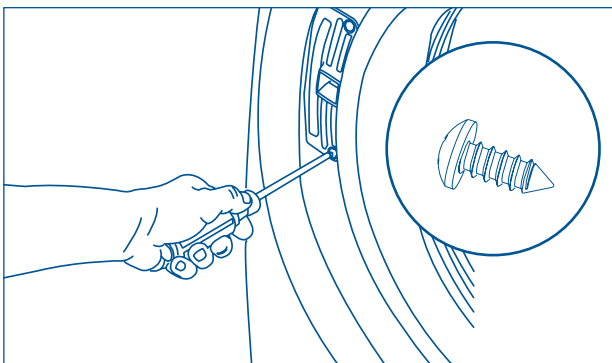

Figure 2-20.
4. Secure the lock with 2 short, course-thread, panhead screws. (See Figure 2-20)